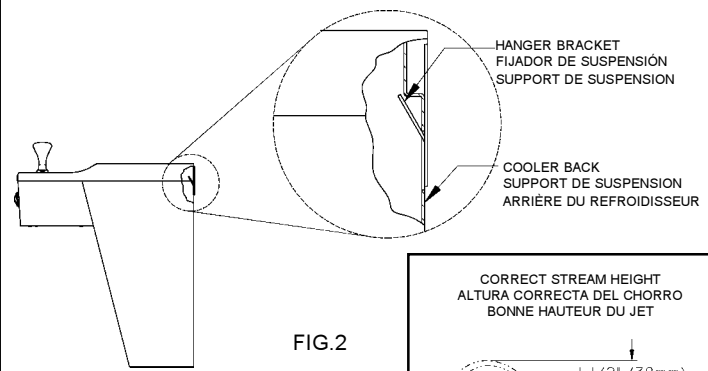

FIG. 2
- 4) Hang the cooler on the hanger bracket. Be certain the hanger bracket is engaged properly in the slots on the cooler back as shown in Fig. 2.
- 5) Loosen the two (2) screws holding the lower front panel at the bottom of cooler base and two (2) screws at the top. Remove the front panel and set aside.